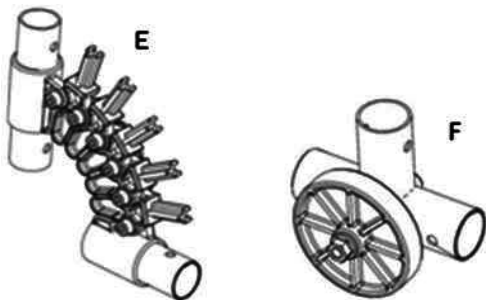

Fig. 3
Each supply of the roofing system contains pre-assembled joints (E) (two right-hand and two left-hand ones) plus 4 T-pieces, each with a wheel (Fig. 3). (The extended oval roofing comprises 6 T-pieces.)